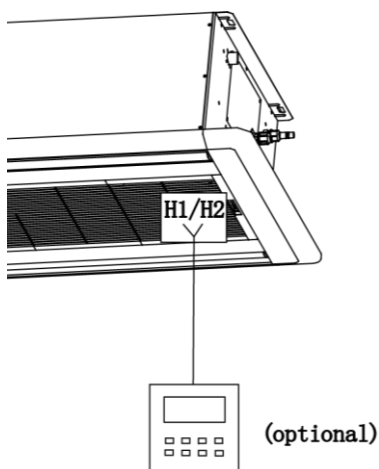
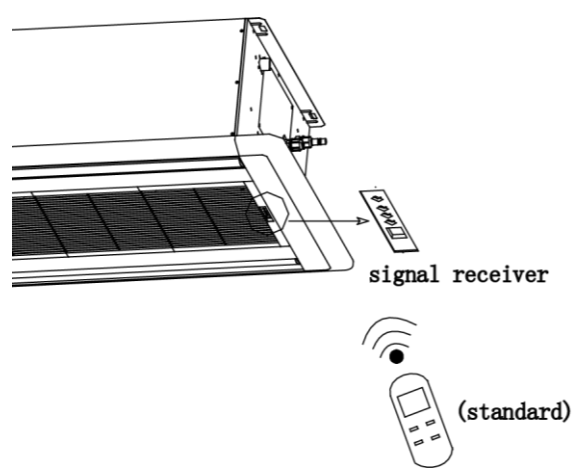

Fig. 5.4.1
Fig. 5.4.2
1) Wired controller (optional) is shown as Fig.5.4.1, wireless controller (standard) is shown as Fig.5.4.2, signal receiver is provided with panel as standard accessory.